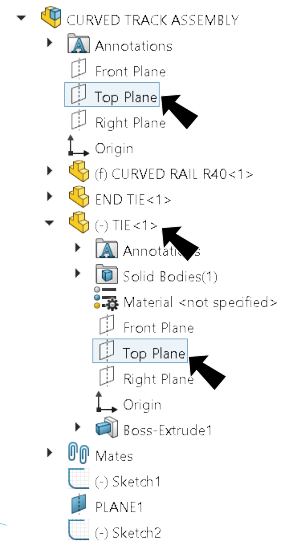

Fig. 20
Step 2. Expand the flyout Feature Manager design, expand **Tie** and click **Top Plane** , **Fig. 20**.